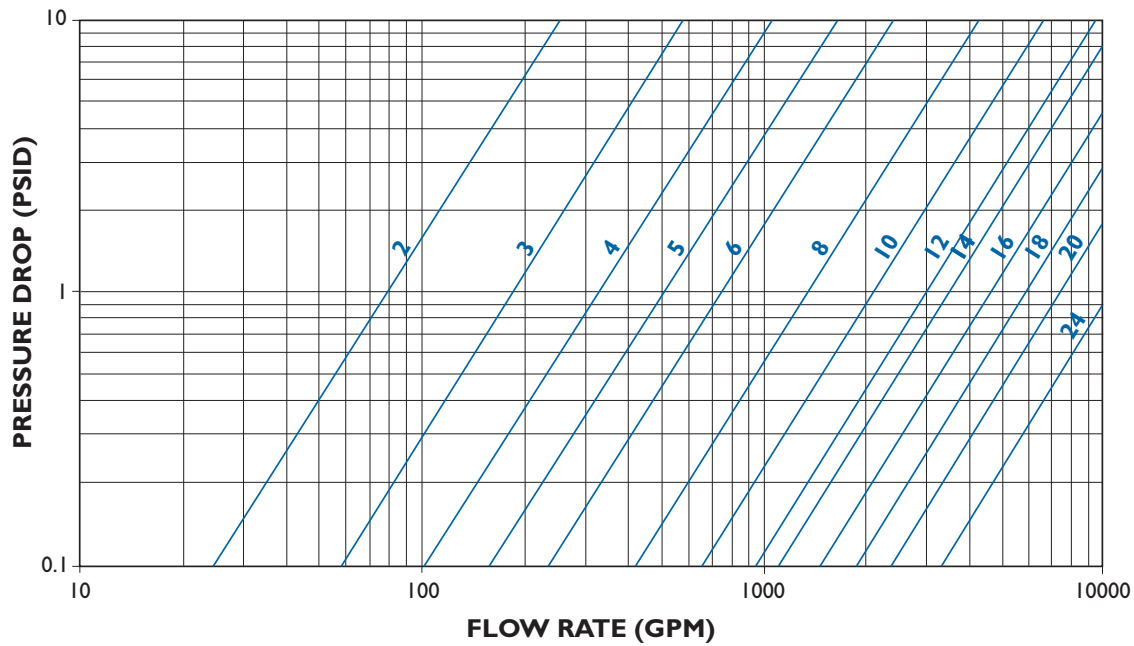

FIGURE 5
- A) Using figure 5 the pressure drop is determined to be 2.0 psid with HART standard screen.